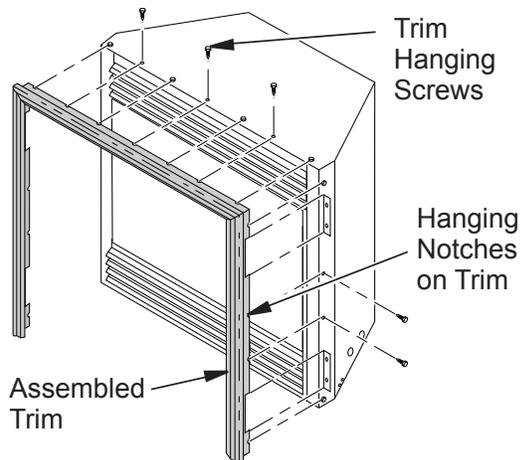

Figure 7 - Attaching Perimeter Trim to Fireplace
8. Tighten trim hanging screws (#10 x 6.25 shoulder) into holes in cabinets. Place the assembled trim onto fireplace cabinet. Align hanging notches on trim with hanging screws on side of fireplace (see **Figure 7**). Push trim firmly into place, sliding hanging notches over hanging screws.
- Install trim after final finishing and/or painting of wall (see **Figure 7, Page 10**).